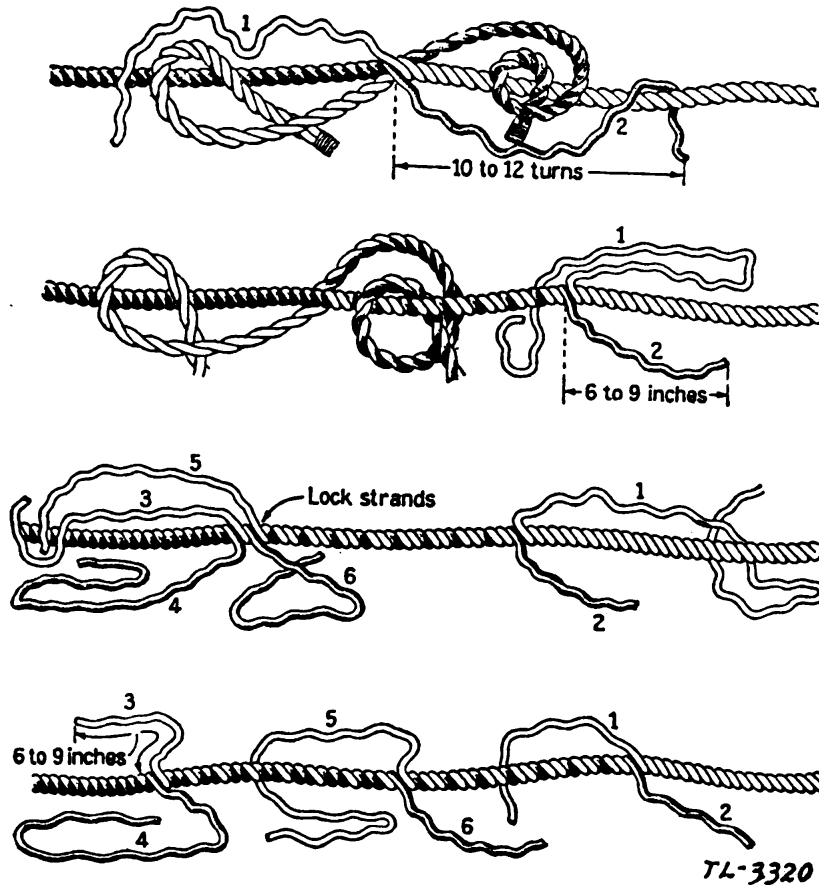

Figure 4
(3) Pull all knots down tight as in 3-C.
(4) Carry each end over the adjacent strand of the rope and tuck it under the next strand. Start with and proceed to strand 6, in progressive order. This will produce an arrangement as in 3-D. Repeat this operation until the total length of the interweaving strands extends through a distance of 4 inches, for one-quarter inch rope, and add an additional tuck for each next largest standard size rope.
(5) Roll splice between two flat surfaces under pressure, as between foot and floor, and trim off the surplus ends flush with the outside strands. The completed splice is shown in 3-E.
e. Long straight splice.—The long straight splice is used to unite the ends of rope required for passing over sheaves, by interweaving strands, and when properly made it has 90 percent of the strength of the rope and therefore it is stronger than the short straight splice. Figures 4 and 5 illustrate, in sequence, the steps in making the long straight splice. The advantages of this splice are; stronger than the short straight splice, and smaller than the short straight splice, thereby allowing it to pass through the sheaves of a block.
(1) Unlay only one strand of each rope for 10 or 12 turns. Lock and draw ends of the rope tightly together, having the single strands 1 and 2 side by side, as illustrated in figure 4.
(2) Taking care not to let the ends of the ropes separate, unlay strand 1 from its rope one turn, and follow it with strand 2. Keep 2 twisted up tightly and pulled down firmly into its place. Continue this procedure until only 6 to 9 inches of strand 2 is left out, depending on the size of the rope.
(3) Untwist the two pairs of strands left at the center and lock them as shown in figure 4. Strand 3 between strands 4 and 6, and strand 6 between strands 3 and 5. Unlay toward the left, strand 4 and follow it with strand 3, as was done
(4) Continue until strand 3 is only 6 to 9 inches long. The breaks in the strand are now separated as shown in figure 4.